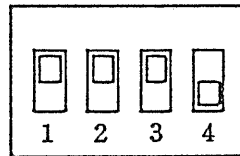

Figure 4.16
The standard switch setting (the setting for standard operation of the instrument, as set when the instrument is shipped) is as shown in Figure 4.16. By changing the settings of individual switches (1 - 4), settings can be made for the four different modes (1) - (4) as explained in the following. Since modes (1) - (5) are mutually independent, they can be set in any combinations as required.